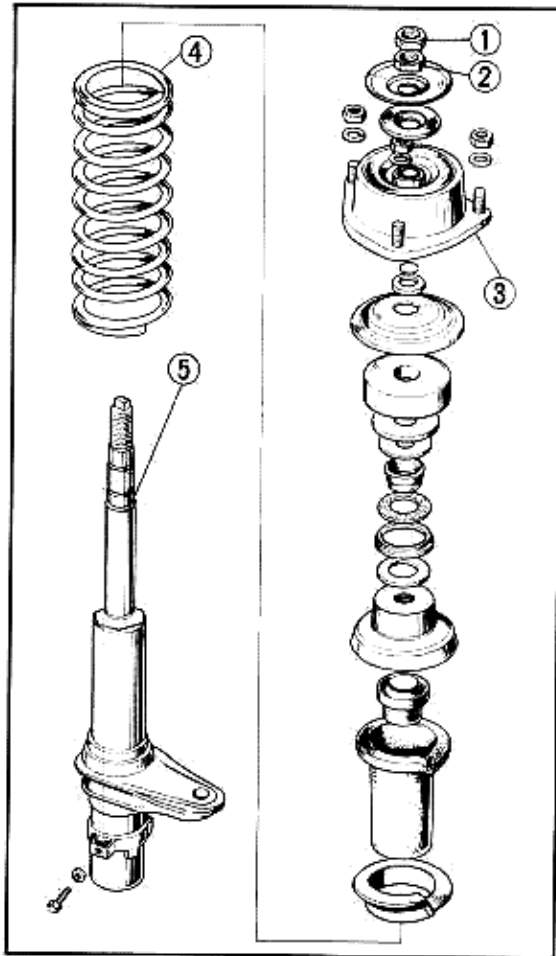

Fig. 12-3 ① 4.5~5.0 kg-m (33~36 lbs-ft)
2. Remove the front stabilizer bar from the subframe (See Fig. 12-3).